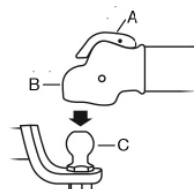
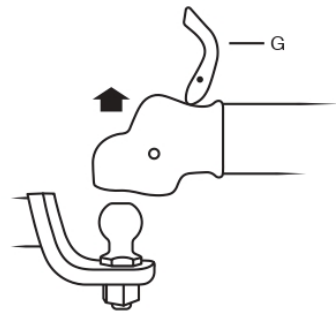

Figure 5
Figure 13
Raise the coupler release-lever (G) to a vertical position. (Figure 13) If release-lever will not raise with normal hand effort; push rearward on the trailer, or drive forward slightly, until release-lever will raise by normal effort. Next, lift the coupler completely off the hitch-ball, then carefully lower the trailer tongue to the ground. Lower the release-lever to fully down position when finished. (See Figure 5)